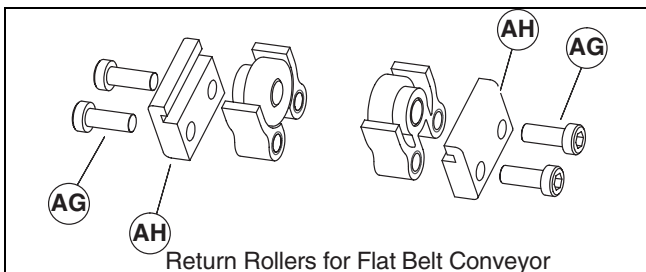

Figure 12
1. Locate return rollers. Exploded view shown in Figure 12.
2. Remove screws (Figure 12, item AG) and clips (AH) from roller assembly.